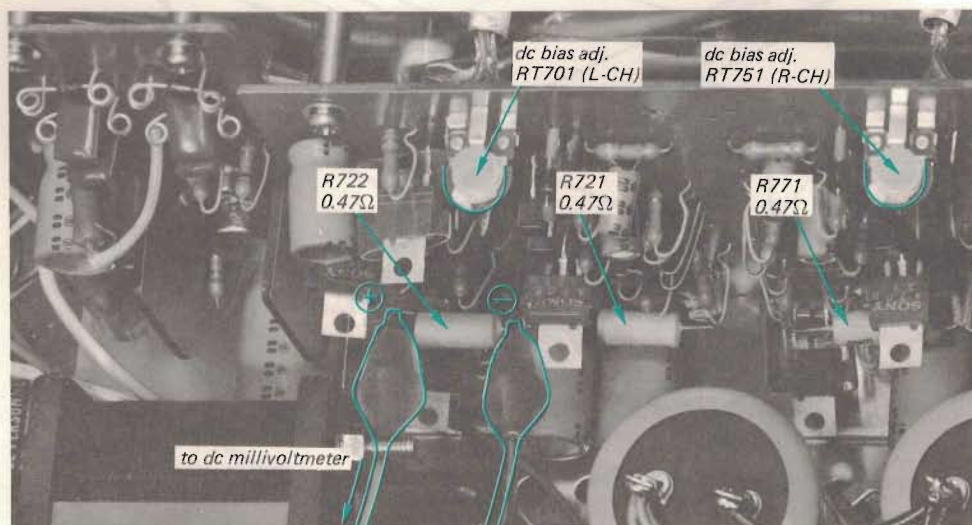

Fig. 3-17 Dc millivoltmeter connection
To avoid accidental power transistor damage, increase the ac line voltage gradually, using a variable transformer, while measuring the voltage across emitter resistors R722 (R772) of power transistors alternately as shown in Fig. 3-17); Check to see that the reading does not exceed 25 mV. If it does, turn off the power as soon as possible, then check and repair the trouble in the power-amplifier board.
2. Connect the dc millivoltmeter across emitter resistor R722 of power transistor Q901 as shown in Fig. 3-17.
1. Apply a drop of cement solvent to the semifixed resistors on the power amplifier board, and then set the semifixed resistors (see Fig. 3-17) on the power amplifier board as follows: